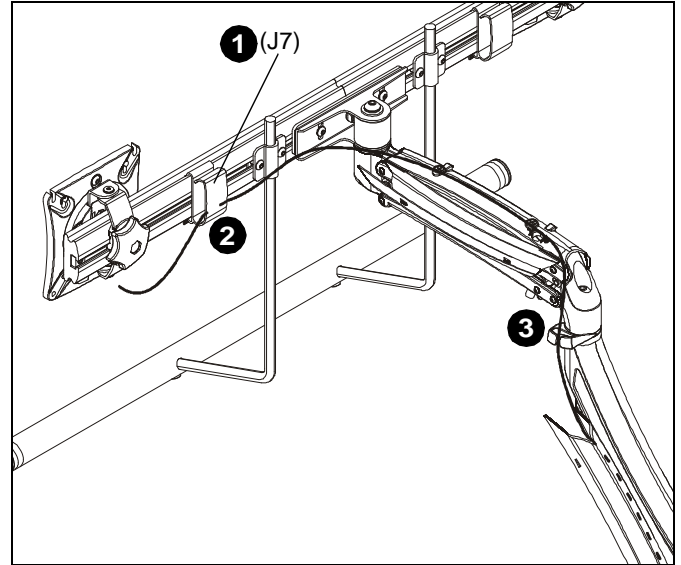

Figure 28
1. Install array cable clips (J7) to back of array. (See Figure 28)
2. Route cables through array cable clips (J7) as desired. (See Figure 28)
3. Route cables through arm cable clips as desired. (See Figure 28)